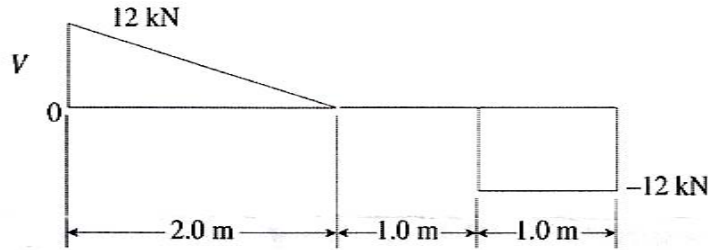

Figure 3b
b. The Share force diagram for a simple beam is shown in figure 3b. Determine the loading on the beam and draw the bending- movement diagram, assuming that no couple act as loads on the beam (8)